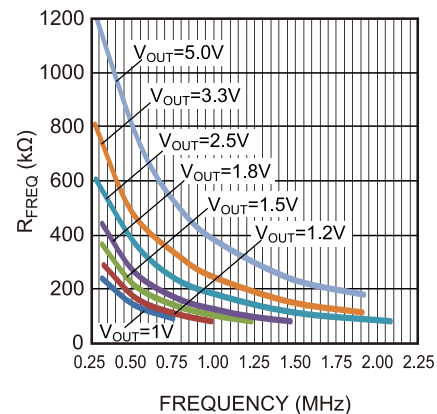

Figure 10: R7 vs. Auto PFM/PWM Mode Switching Frequency
Set the auto PFM/PWM mode switching frequency by connecting a resistor (R7) from FREQ/MODE pin to ground and leaving R6 not stuffed (NS) (see Figure 10). Determine R7 with Equation (13):